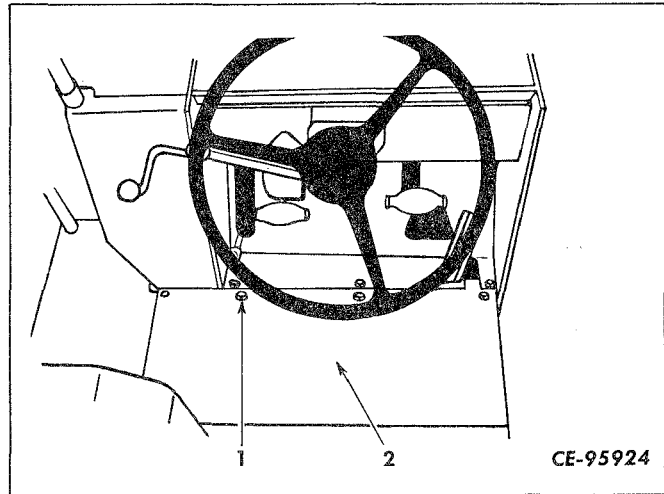

Figure 4-103
Install rear floorboard (2, Fig. 4-103) to frame and secure with cap screws (1).